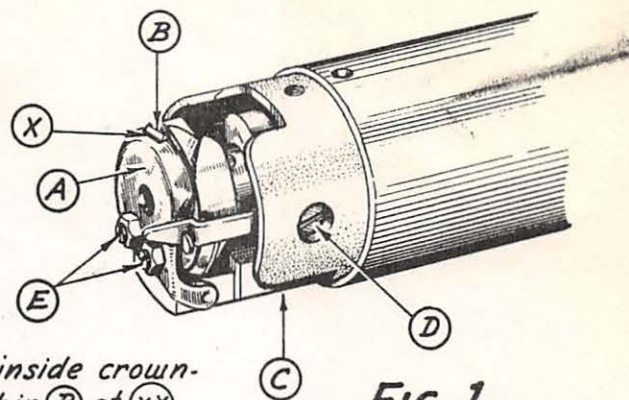

FIG. 1
The clearance between Bobbin Holder (A) and Bobbin (B) at (X) (See Figs. 1 and 1A) should be approximately $\frac{1}{32}$ of an inch.
To adjust clearance, loosen Set Screw (C) (nearest one towards operator of three Set Screws on underside of Yoke Casting) Fig. 1 and turn Eccentric Screw (D) right or left until the desired clearance is obtained. Then tighten Set Screw (C) securely.
The amount of clearance between the inside crowned ends of Adjusting Screws (E) and Bobbin (B) at (XX) (See Figs. 1 and 1A) should be just sufficient to allow the thread to pass between them. To adjust, loosen Lock Nuts and turn Adj. Screw (E) until it tightens on Bobbin Case - then loosen about $\frac{1}{4}$ of a turn. - hold in position with screw-driver and tighten Lock Nuts.
Remove Screws (A) (B) and (C) Fig. 1 and take off Face Plate and Latch Sleeve.